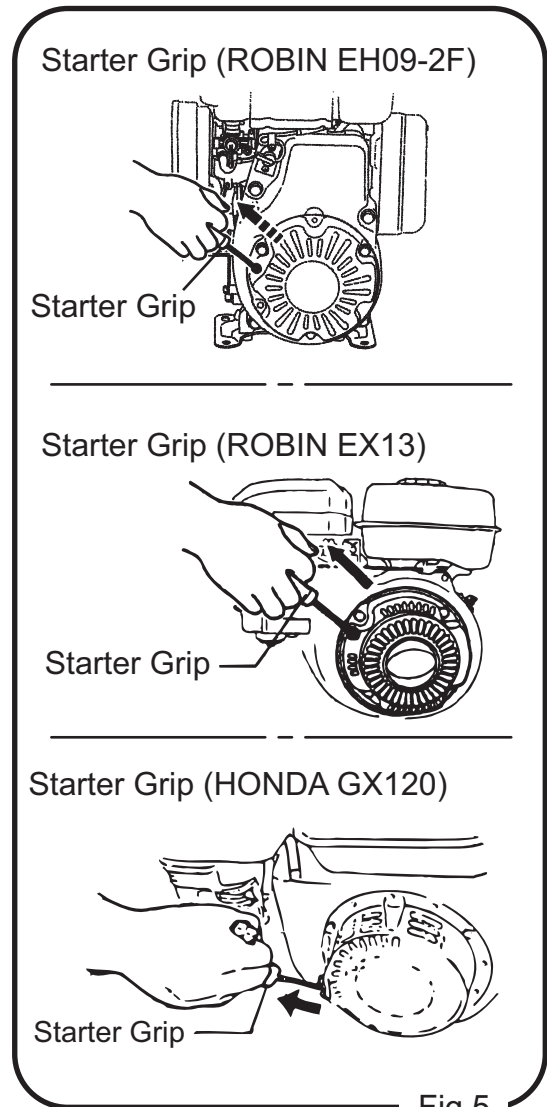

Fig.5
- 4 Grip the starting knob of the recoil starter. When you pull the rope a little, you will feel some resistance. Then pull it at a stroke. Be careful not to pull the rope too strongly, or the rope may break or come off. (Fig.5)